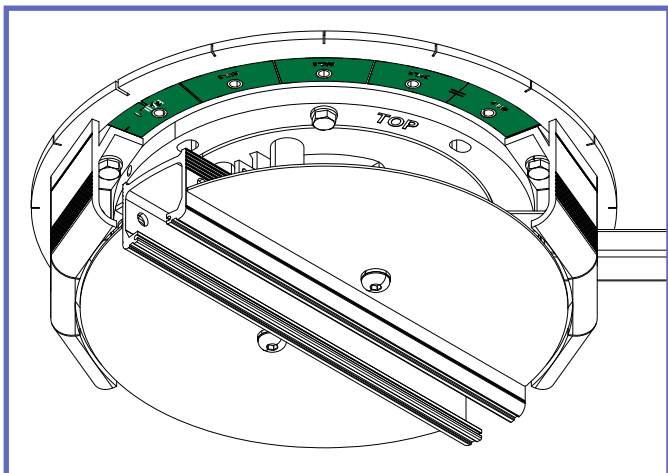

Fig. 16
- All tracks must be positioned in the green sections. Do not install any tracks in the red sections (marked "NO RAIL"). The end stopper plates that are pre-installed at the factory completely cover these red sections, see Fig. 16 .